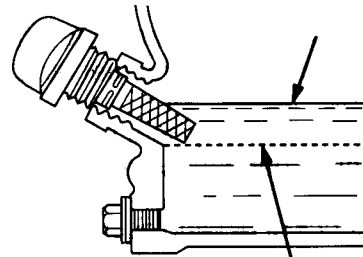

Figure 5. Engine Oil Dipstick (Oil Level)
4. If the oil level is low (Figure 5), fill to the edge of the oil filler hole with the recommended oil type (Table 3). Maximum oil capacity is 1.16 quarts (1.1 liters)